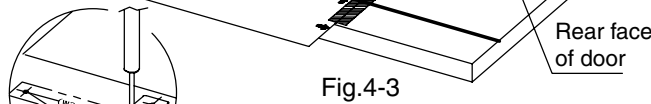

Fig.4-3
- [2.] Align the edges of template ⑩ with the lines marked in [1]. Secure template with adhesive tape (Fig. 4-3).